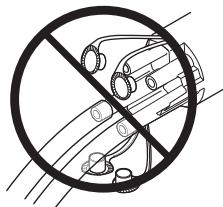

Figure 5 Close All Unused Ports
- Close all the unused manifold ports using their corresponding caps (Figure 5).